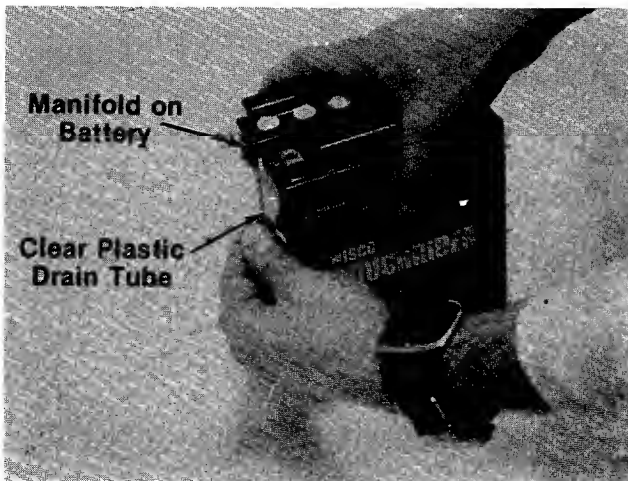

FIGURE 3.
3. Place one end of clear plastic drain tube on manifold of battery. See figure 3.